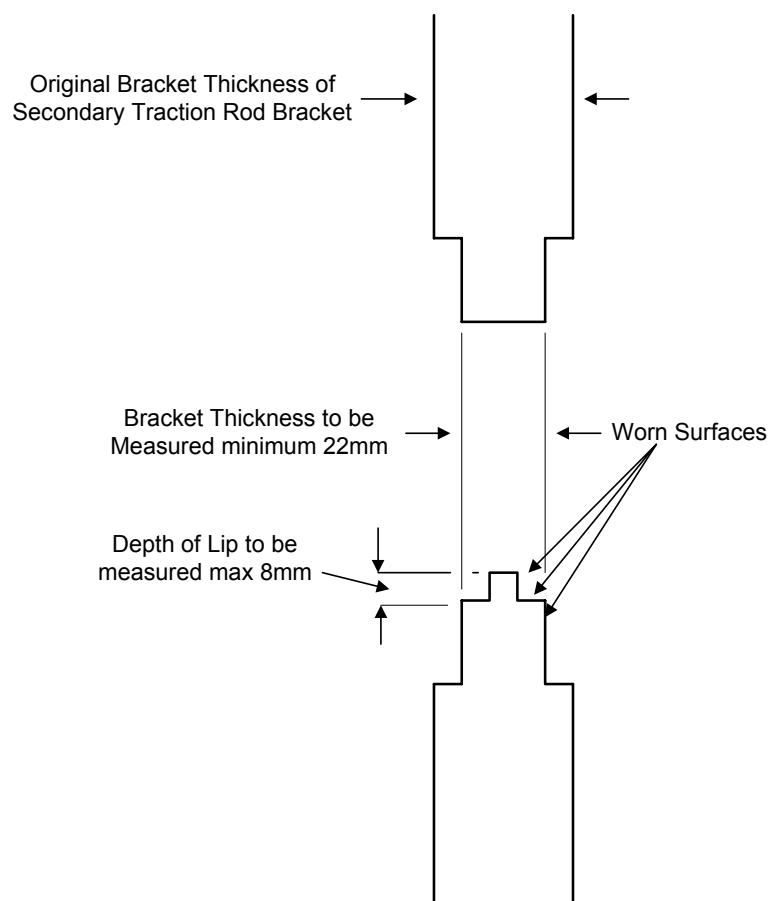

Figure 4: Measurements on Secondary Traction Rod Brackets
5. Measure the thickness of the Secondary traction rod bracket around the mounting hole, see Figure 4. Minimum thickness 22mm.
6. If a lip has been worn (see Figure 4) measure its depth at the lower edge. Maximum allowable 8mm.